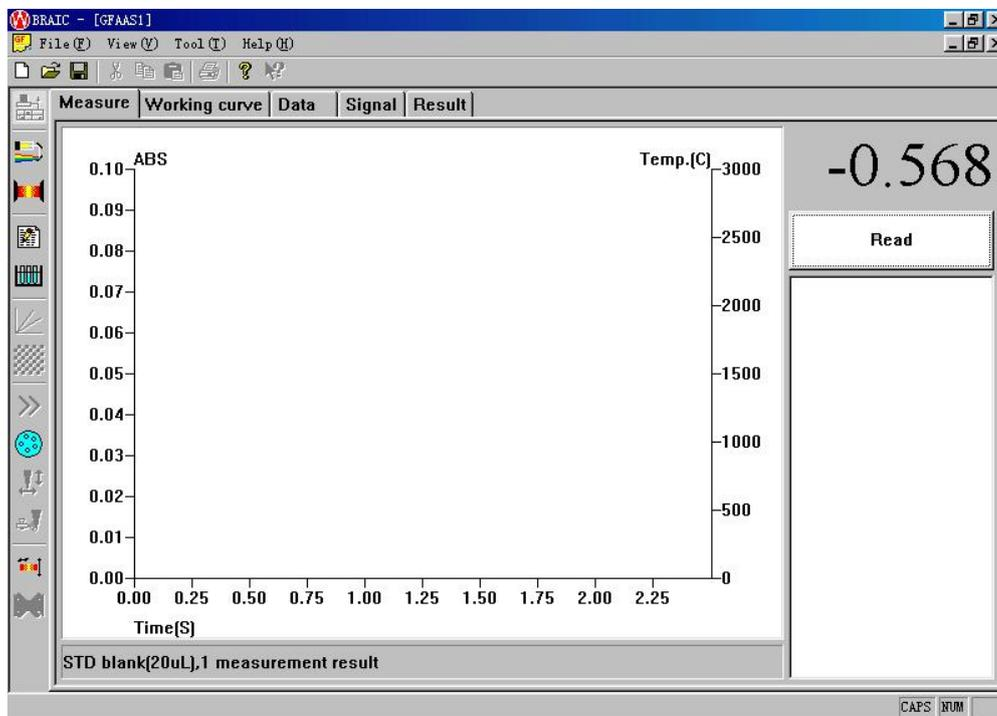
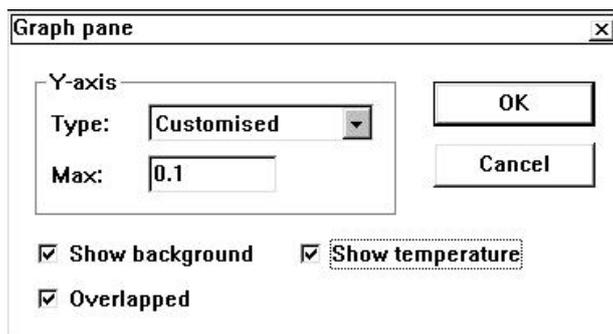

Fig. 4-35
Fig. 4-42
The different point of graphite furnace method & flame method in the software is the “Control Function Key” in the measurement Page (shown in Fig. 4-35).
- 1) Connect the water and gas pipes and the instrument and the auto-sampler all are in normal case, select auto-sampling state, then click “Read” key in Fig.4-35, the auto-sampler will automatically inject the standard blank, series standard points and the sample to be determined into the graphite tube in sequence.
- 2) If the displayed ABS value exceeds the Y coordinate maximum value, double click the black part on Fig. 4-35 to show the window Fig. 4-42. If selecting “Customized”, input the corresponding Y-Axis value at “maximum”. If “Auto” is selected, the Y coordinate value on the measuring page will be adjusted automatically according to the absorbance value (AA or BG).